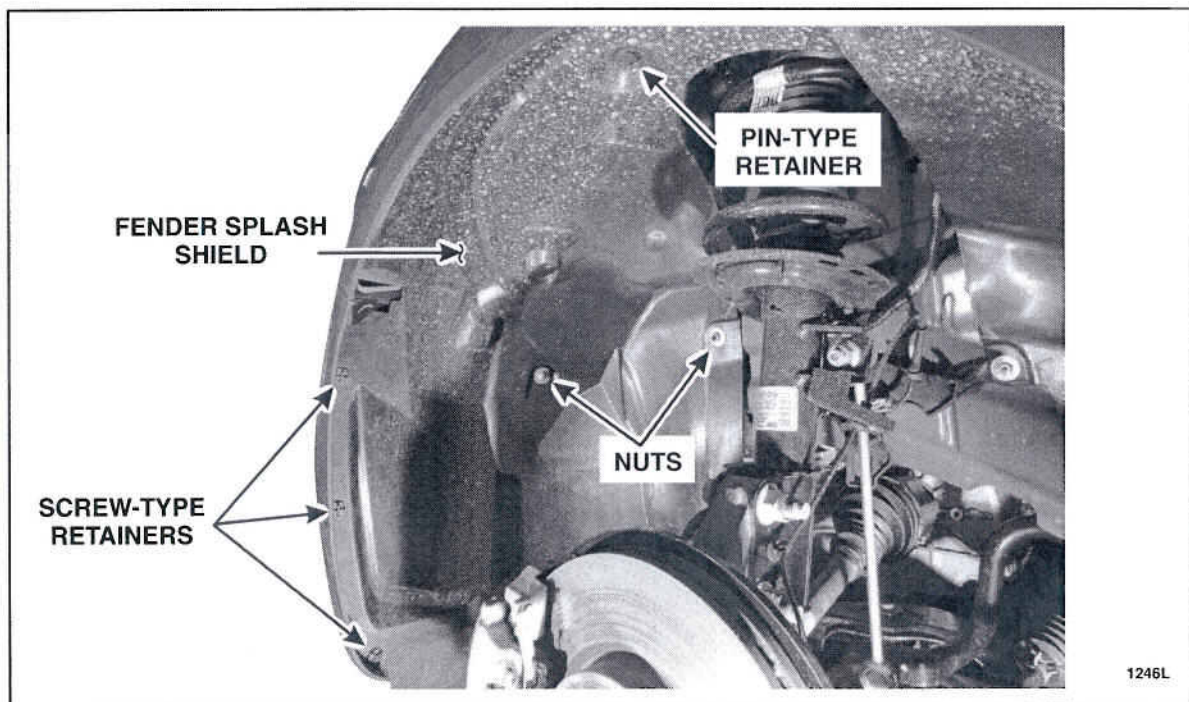

FIGURE 1
2. Remove the four fender splash shield retainers and the two nuts from the RH and LH side of the vehicle. See Figure 1.
9. Install the fender splash shield retainers and nuts to the RH and LH side of the vehicle. See Figure 1.